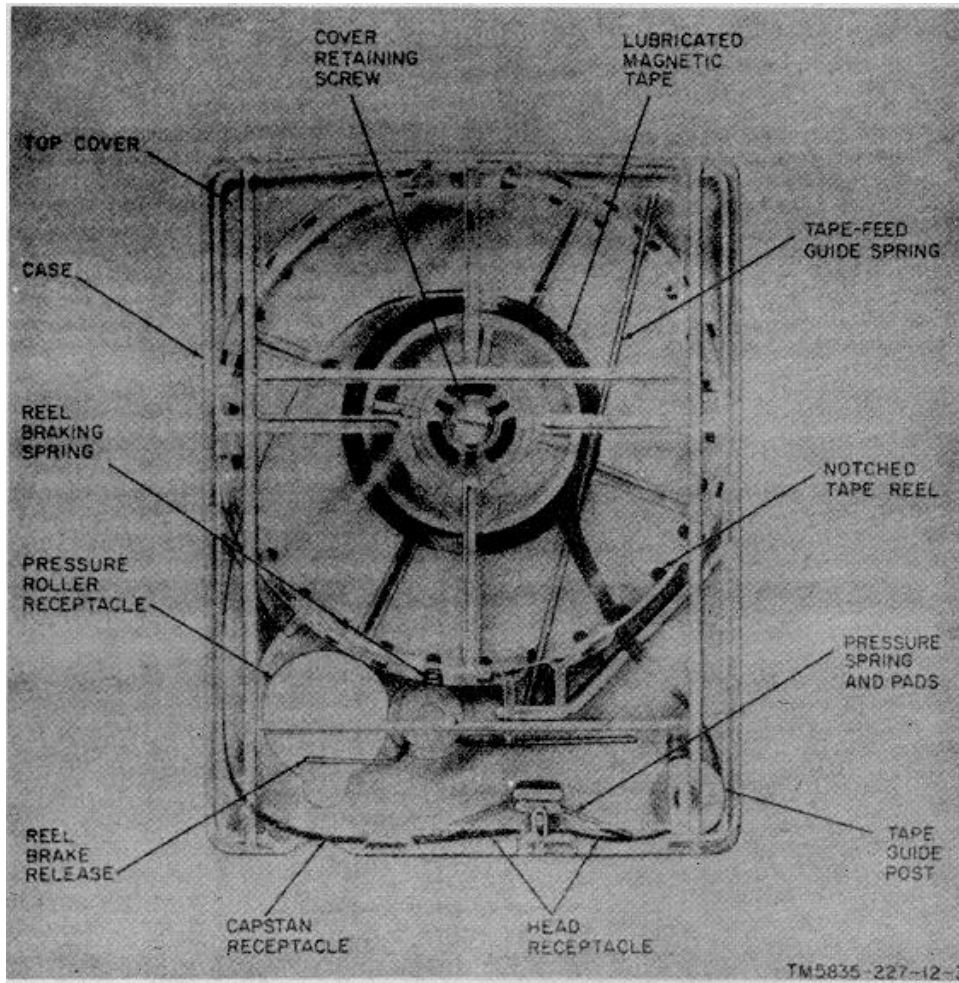

Figure 6. Magazine, Sound, Recorder -13/GR.
The minor components of the recorder-reproducer set are shown in figures 6 through 10. Special features of the minor components are described below:
a. *Magazine, Sound Recorder MA-13/GR (figure 6).* The tape cartridge consists of a plastic case containing 130 feet \pm 1 of lubricated magnetic tape. The tape is prewound in an endless loop on a tape reel that has notches on its outer circumference.